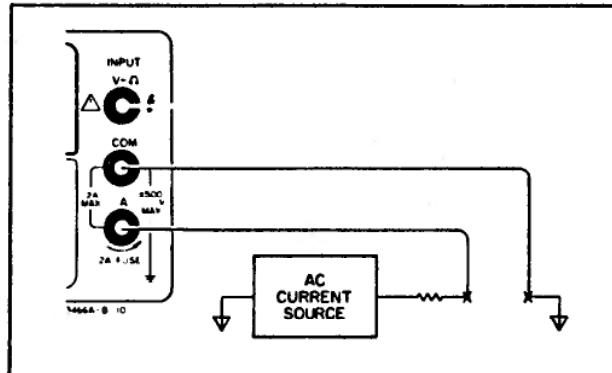

Figure 3-9. AC Current Measurement
- Connect test leads from the Multimeter A and COM terminals in series with the current under test as shown in Figure 3-9.